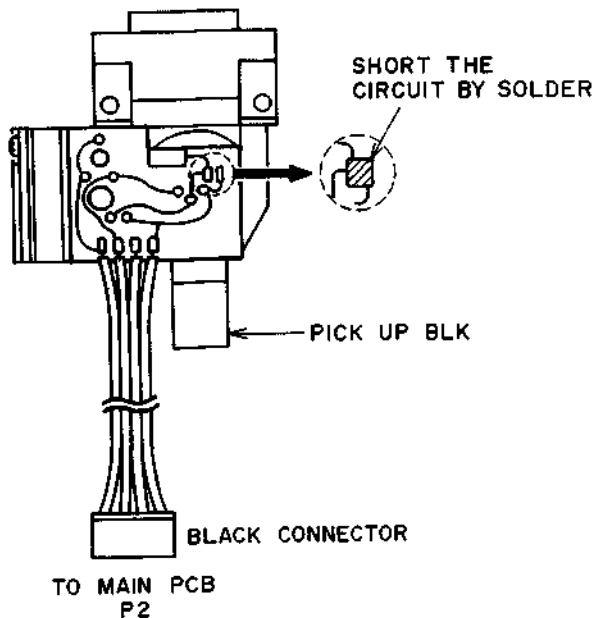

Fig. 5-1
- 3) When connecting or disconnecting the Black connector (P2), make sure that the P.C. board is shorted circuit as shown in Fig. 5-1. Do not turn the electricity "ON" while it remains short-circuited.
- 3) Short the pick-up P.C. board with solder. (Refer to Fig. 5-1)